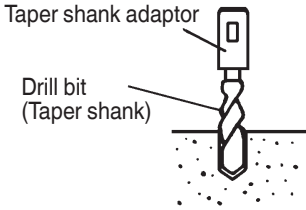

Fig. 12
- (1) Install drill bit with taper shank in the taper shank adaptor. (Fig. 12)